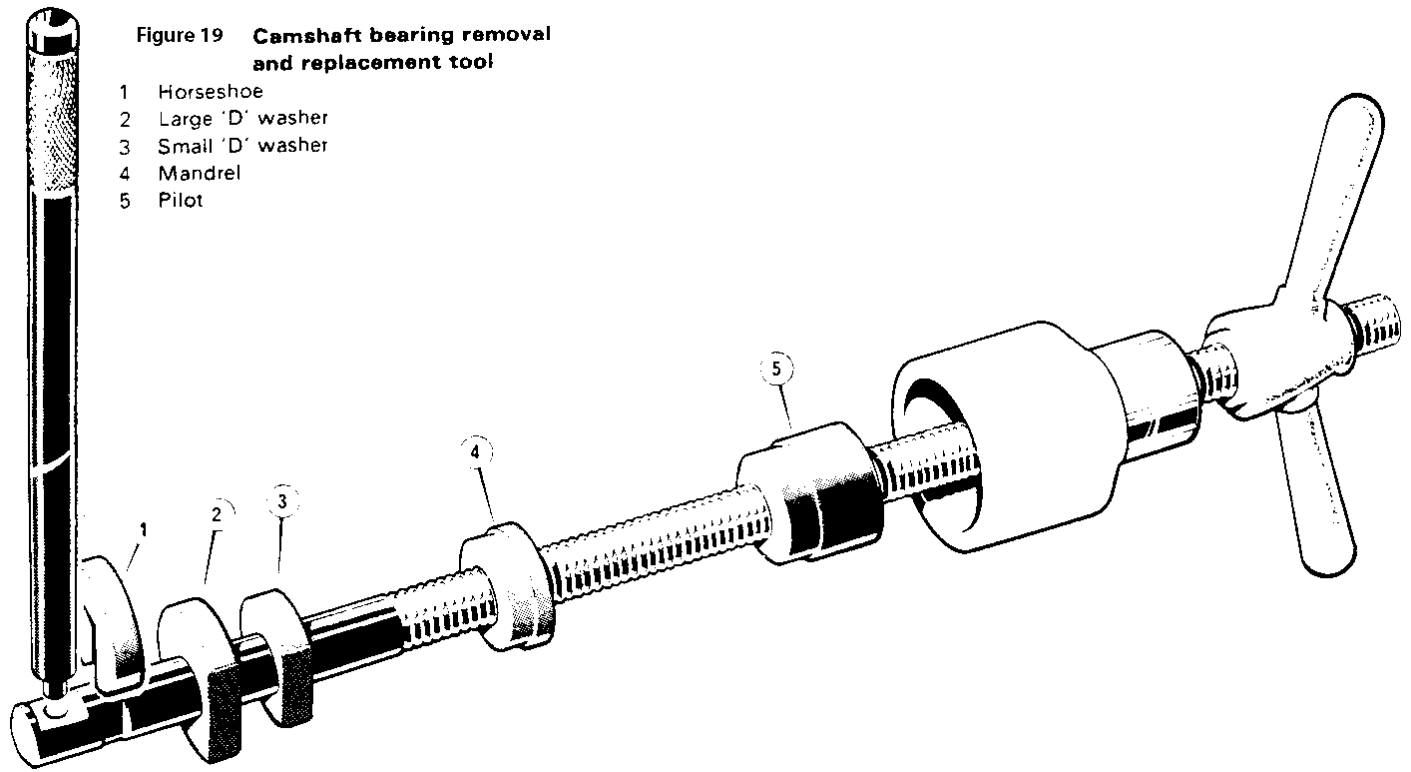

Figure 19 Camshaft bearing removal and replacement tool
4. Press out the rear, centre and front camshaft bearings using general tool 18G 124A and tool No. 7482 (**Figure 19**) as follows: